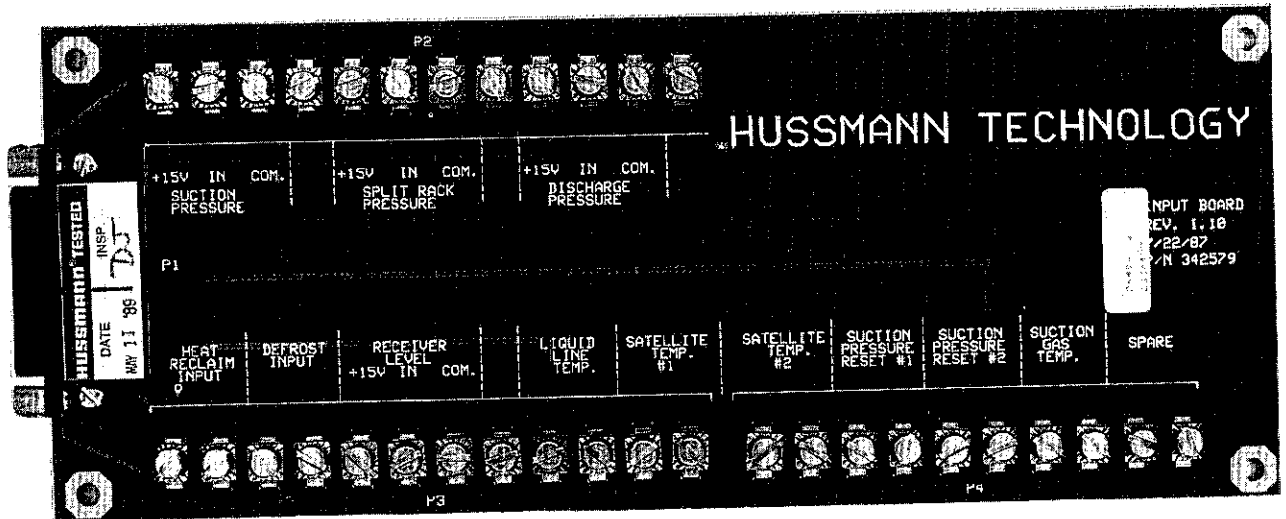

Figure 1-5. Input Terminal Board
2. New Terminal Input Board, Figures 1-5 and 5-2
See Figure 1-5.